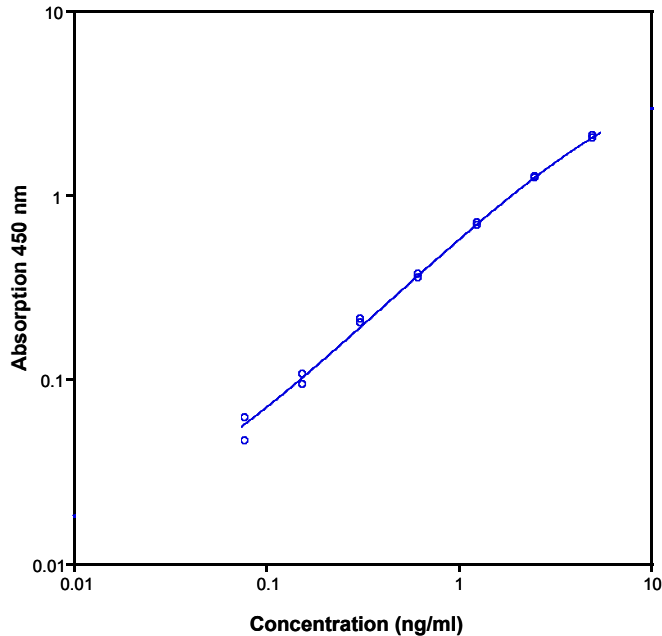

Fig. 7 Representative standard curve for human IL-6R ELISA. Human IL-6R was diluted in serial 2-fold steps in IL-6R Assay Buffer (1x).
- A representative standard curve is shown in Figure 7.